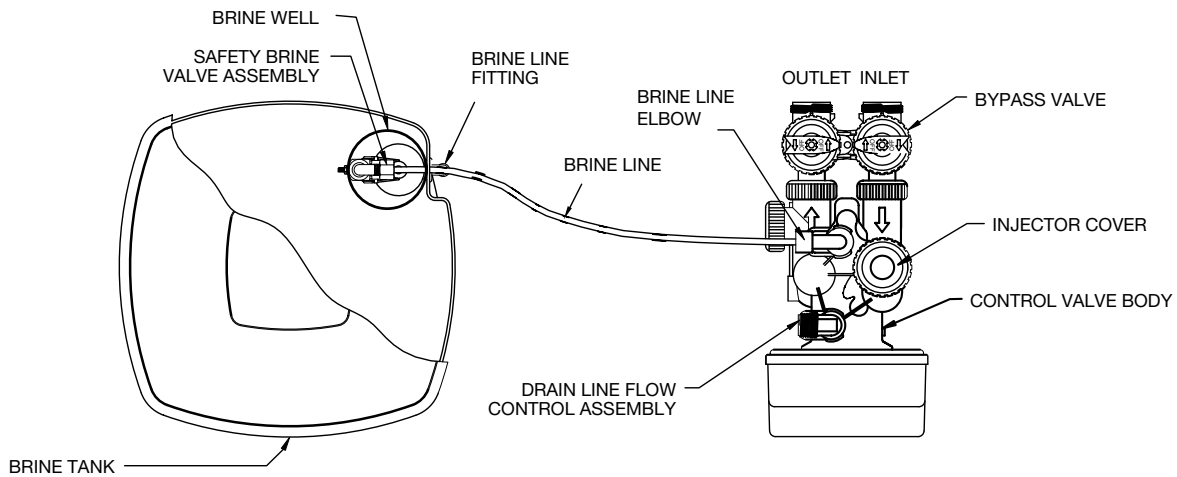

Figure 3. Softener and Brine Tank Assembly, Top View
Step 10) Install the overflow line to the brine tank overflow fitting (Figure 3). The overflow discharge must be lower than the overflow fitting. **DO NOT** connect overflow line with valve drain line.